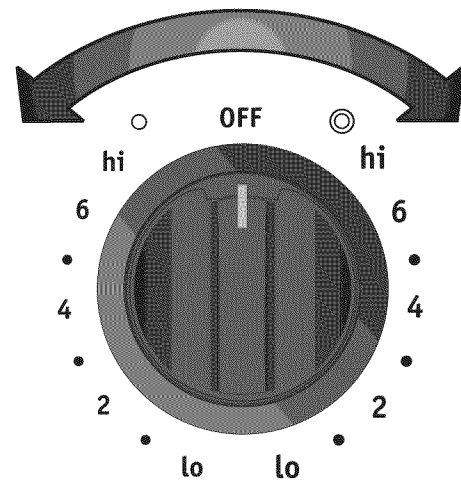

Figure 4
2. Push in and turn the control knob to the inner coil symbol for smaller cookware (Figure 4) or to inner and outer coil symbol for larger cookware (Figure 4). Turn the knob to adjust the setting if needed. Start most cooking operations on a higher setting and then turn to a lower setting to finish cooking. Each surface element provides a constant amount of heat at each setting. A glowing red surface heating area extending beyond the bottom edge of the cookware indicates the cookware is **too small** for the surface heating area.